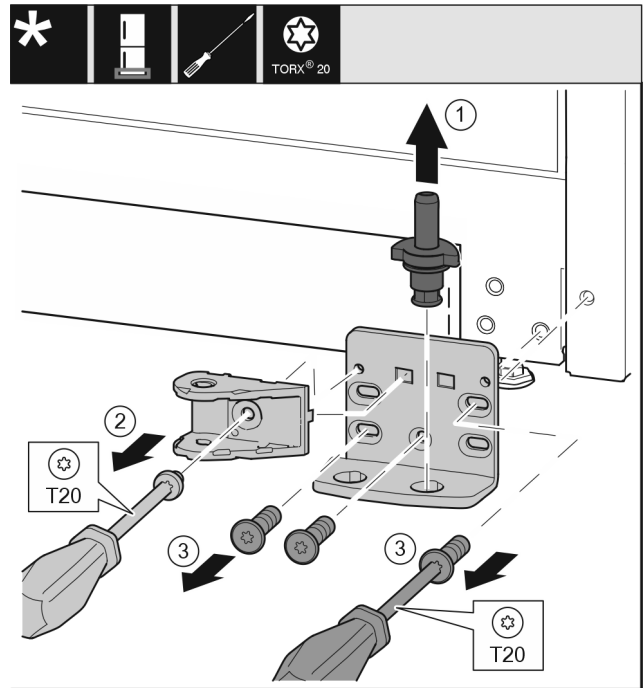

Fig. 36 \*
- ▶ Pull the bearing bolt Fig. 36 (1) out upwards completely.\*
- ▶ Use screwdriver to unscrew the screw Fig. 36 (2) and remove the closing damper connection.\*
- ▶ Use screwdriver to unscrew the screws Fig. 36 (3) and remove the swap bearing block.\*